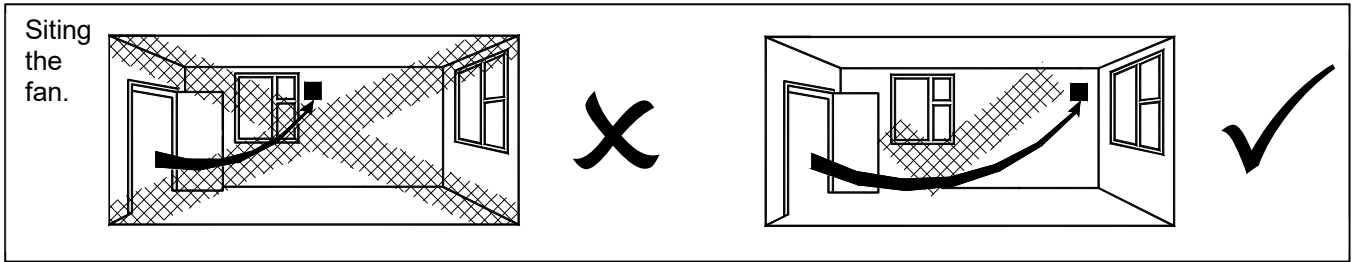

Fig.1 Continuous trickle with boost via pull cord. (The fan is internally fused)
1. Select and follow the appropriate wiring diagram. (Fig. 1, 2, 3, OR 4, 5, 6)